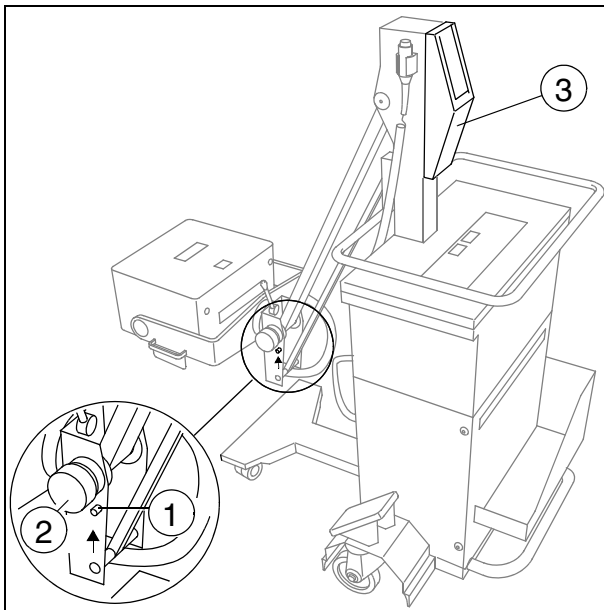

Fig. 20
- Loosen the rotating knob (2/Fig.20) and unlock the C-arm (1/Fig.20).
- Remove the cover (3/Fig.20) at the stand.
- Release the supplemental brake at the C-arm (2/Fig.20) completely.